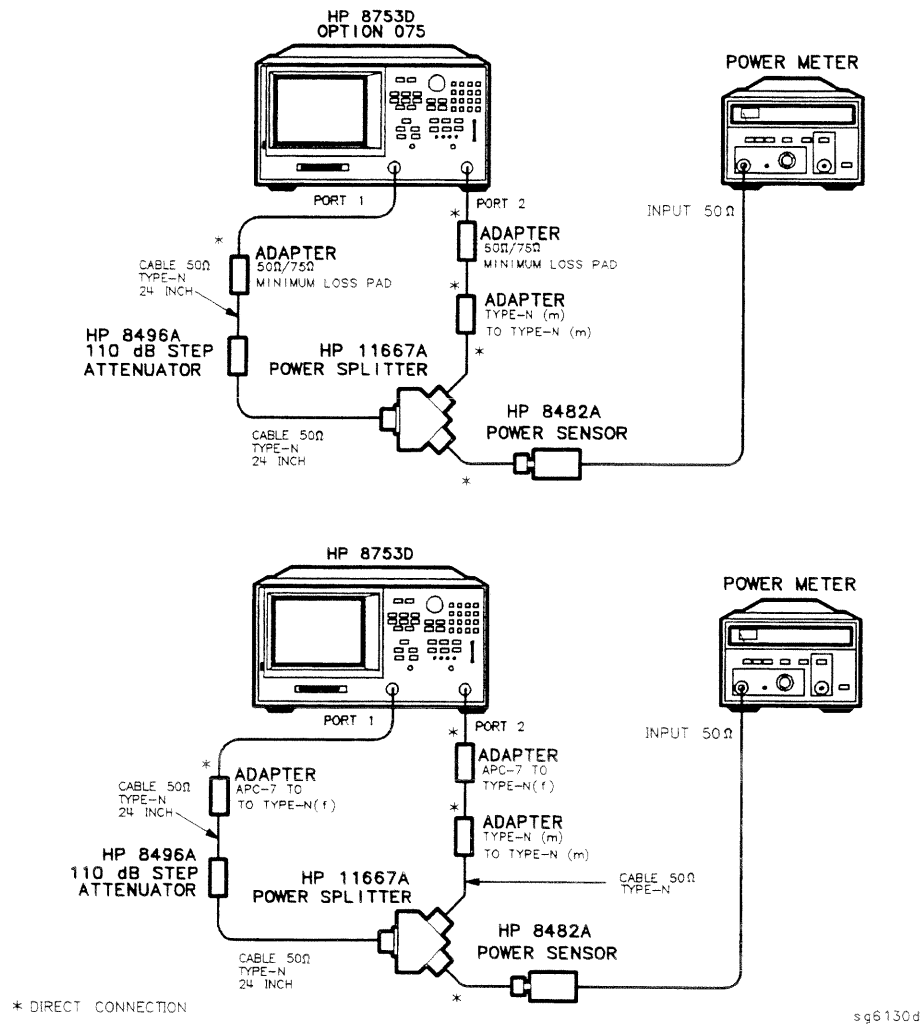

Figure 2-44. Test Port 2 Dynamic Accuracy Test Setup
8. Connect the equipment as shown in Figure 2-44.